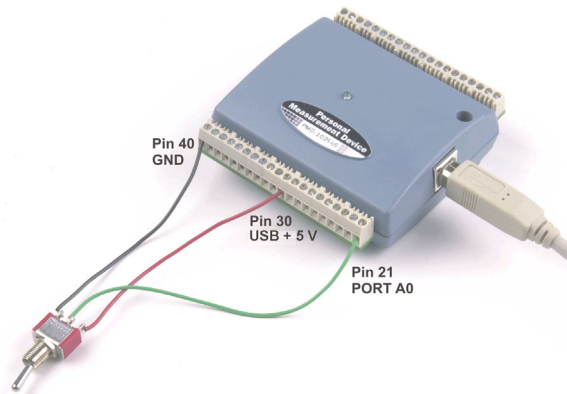
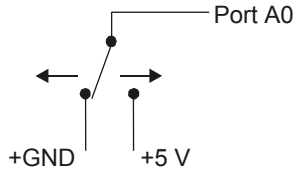

Figure 3-3. Digital connection of Port A0 detecting the state of a switch
Figure 3-4. Schematic showing switch detection by digital channel Port A0
When configured for input, you can use the PMD-1024HLS digital I/O terminals to detect the state of any TTL level input. Refer to the switch shown in Figure 3-3 and the schematic shown in Figure 3-4. If you set the switch to the +5 V input, Port A0 reads TRUE (1). If you move the switch to GND, Port A0 reads FALSE.